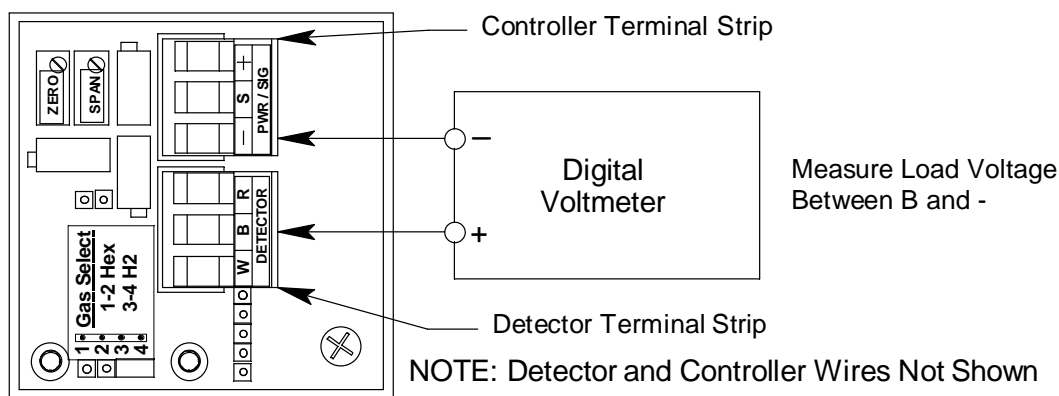

Figure 4: Load Voltage Measurement
9. Measure the voltage between the **B** terminal on the detector terminal strip and the - (negative) terminal on the controller terminal strip as shown below in Figure 4.